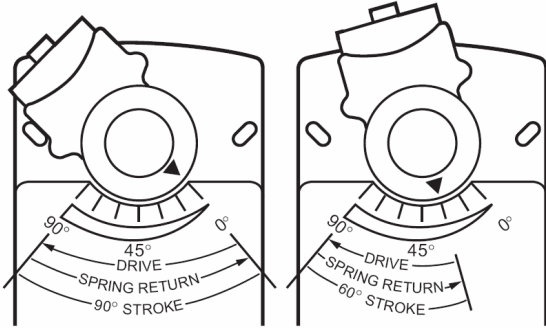

Fig. 5. Stroke reduction.
3. Rotate the coupling to the desired fail-safe position, aligning it based on the stroke labeling. See Fig. 5.
EXAMPLE: Setting shaft coupling to an approximate fail-safe position of 35 degrees (as indicated on the housing) limits stroke to 60 degrees. (See Fig. 5)